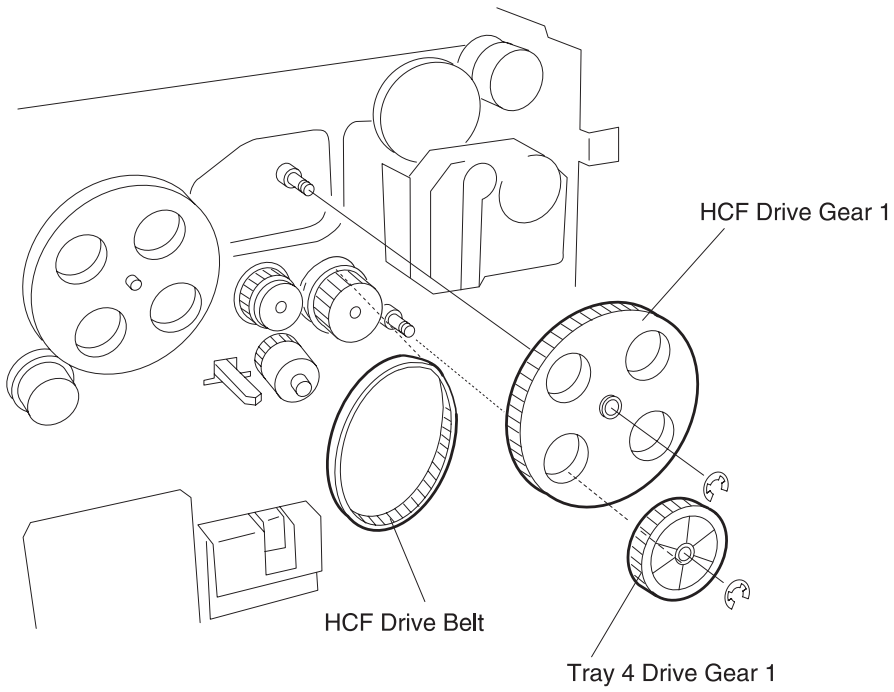

Figure 2
4. Remove the E-ring securing HCF Drive Gear 1 and the E-ring securing Tray 4 Drive Gear 1 and slide both Gears off of the shafts (Figure 2).